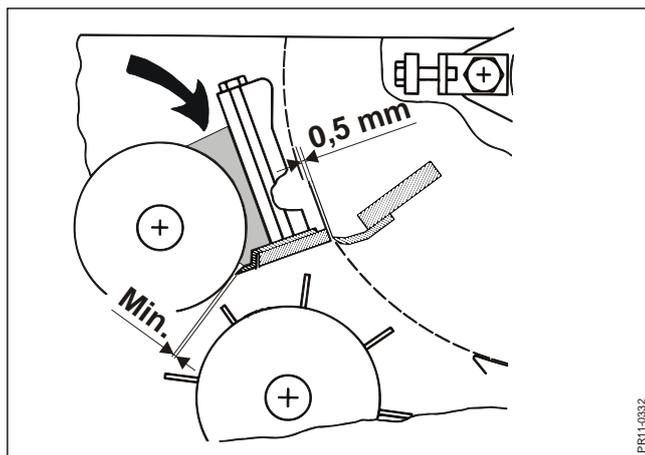

Fig. 4-18
**Fig. 4-18** Under some conditions, crop substance (small particles) can accumulate in the shaded area and get so compact that this may result in an overloading of the transmission driving the rollers.